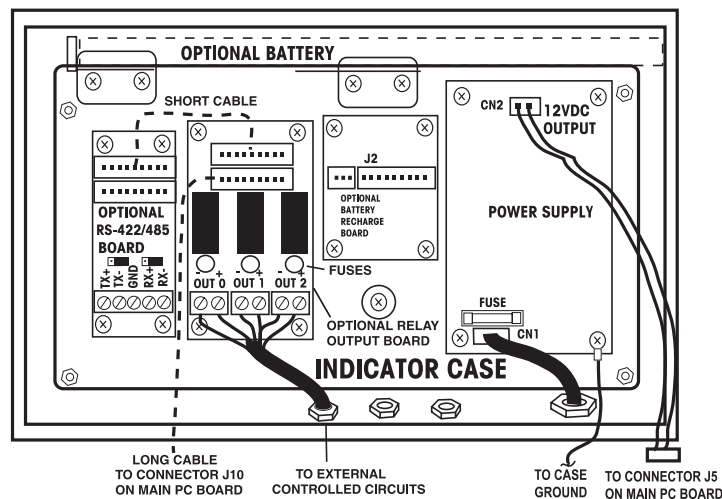

Figure 3-4. Power Supply Location Diagram.
3. Refer to Figure 3-4 and locate the fuse on the Power Board. Remove the protective cover and fuse. Check the fuse with an Ohmmeter. If defective, replace with a new fuse of the same type. Reinstall protective fuse cover and reconnect ac power and measure voltage at connector CN2. If voltage is not present, replace the Power Supply board. Refer to procedure 4.4.